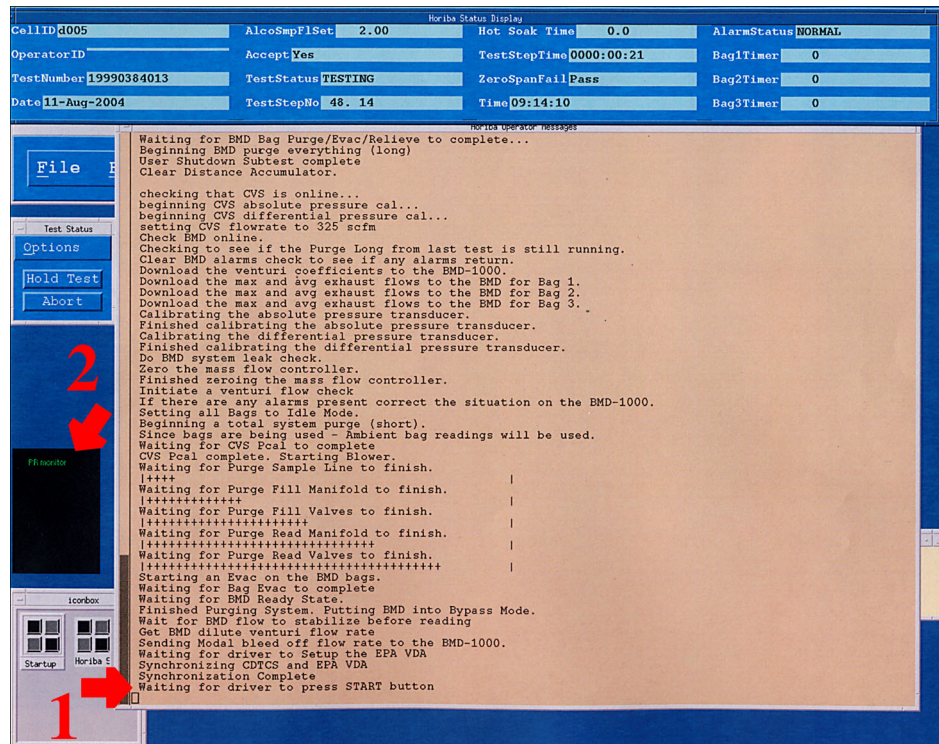

Figure 18
- 7.9.12 When the "Operator Message" text "Waiting for driver to press START button appears" (arrow 1 in Figure 18), and the "PR monitor" button color is green (arrow 2 in Figure 18), the CDTCS pre-test setup is complete.